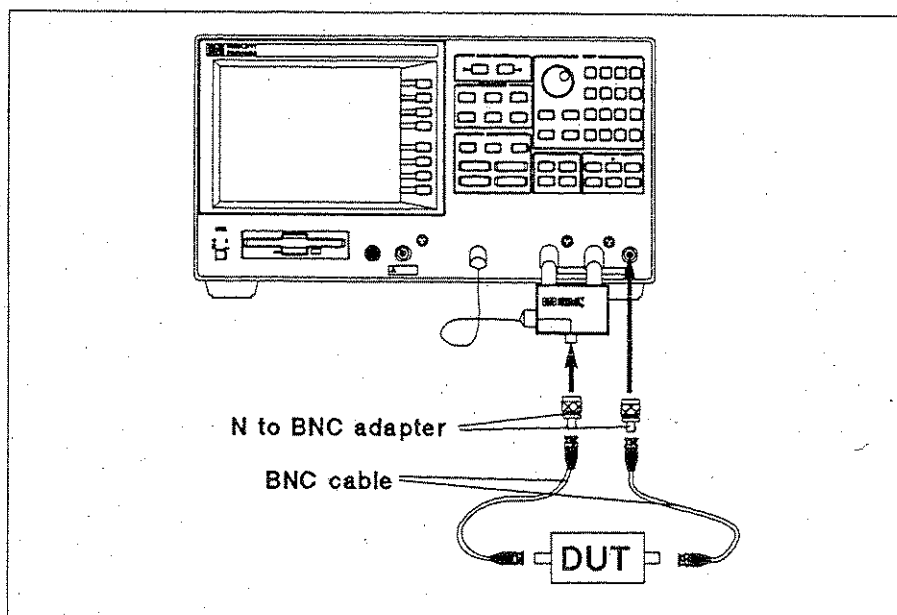
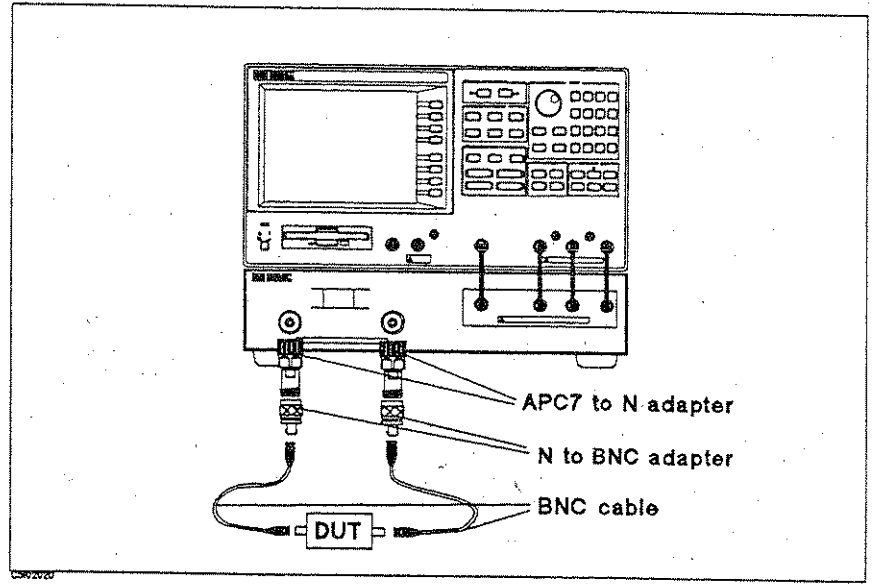

Figure 2-2. Transmission/Reflection Test Set Setup
Figure 2-3. S-Parameter Test Set Setup
**Connecting the DUT** Connect the DUT as shown in Figure 2-2 or Figure 2-3.